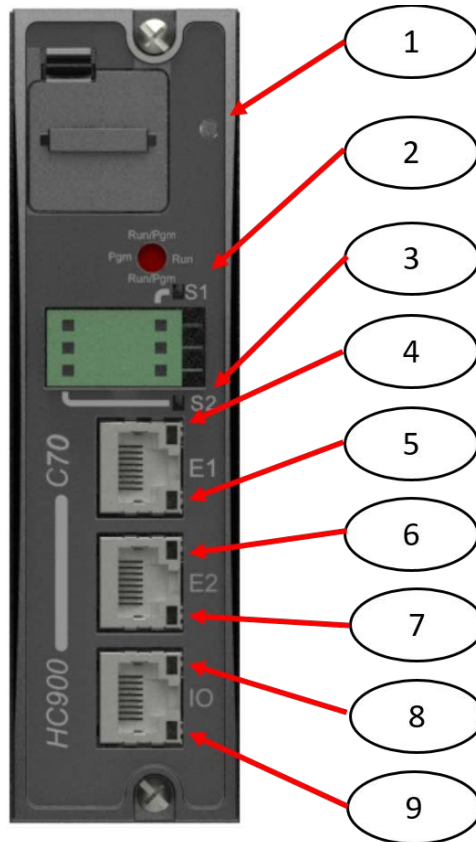

Figure 99 – LED Indicators on Controller CPUs
When the Controller has a flashing amber status LED after power-up a critical, power-on-self-test, error has occurred that requires controller module replacement. When the Controller Status LED (Figure 99 on page 186, item 1) is flashing red, consult Table 29.